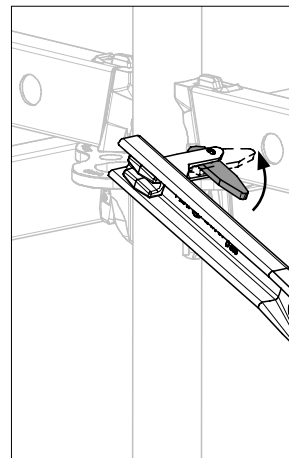

Fig. A11.01b
2. Pivot the gravity pin (8.2) and insert into the hole of the top Ledger UH. (Fig. A11.01b)